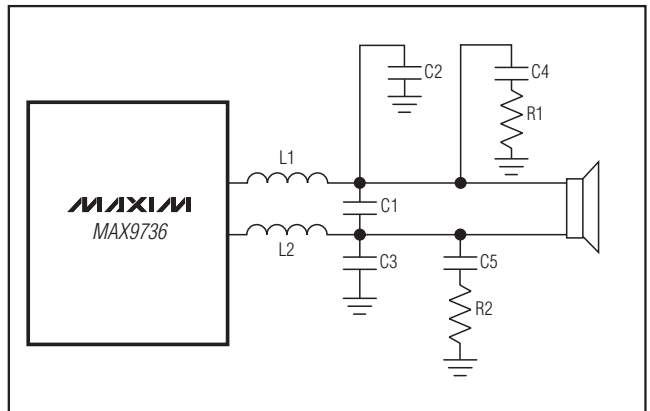

Figure 4. Output Filter for PWM Mode
Some applications use the MAX9736 with a full inductor/capacitor-based (LC) output filter. Select the PWM output mode for best audio performance. See Figure 4 for the correct connections of these components.